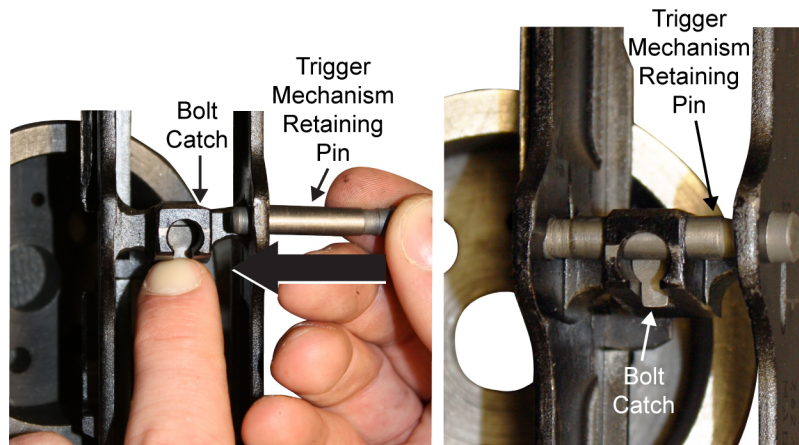

Figure 23. Install the Trigger Mechanism Retaining Pin.
6. Depress the bolt catch and drift the trigger mechanism retaining pin from right to left. The trigger mechanism retaining pin is headed. Refer to Figure 23.